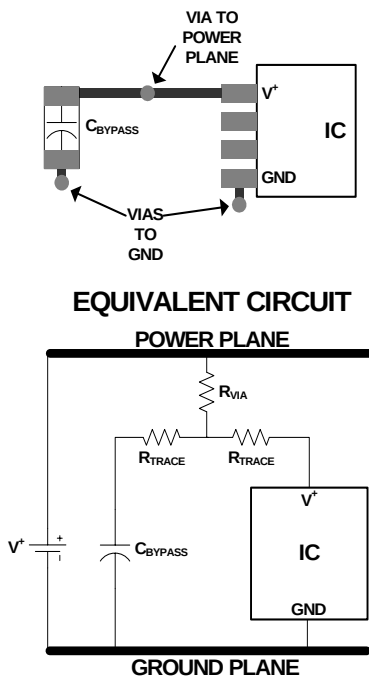
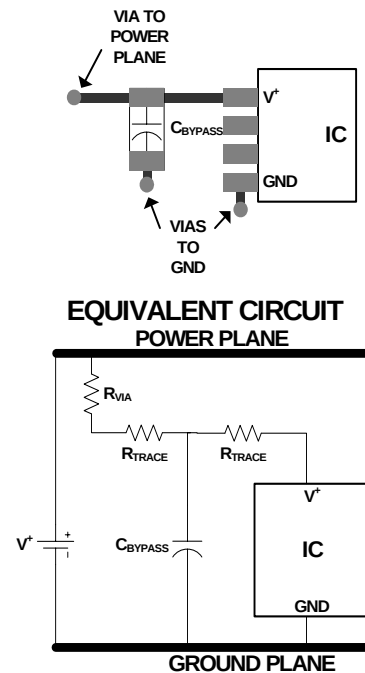

FIGURE 12. SUB-OPTIMAL BYPASS CAPACITOR LAYOUT
FIGURE 13. OPTIMAL ("T") BYPASS CAPACITOR LAYOUT
- Ideally each supply should be bypassed to ground with a $0.1\mu F$ capacitor. Minimize trace length and vias to minimize inductance and maximize noise rejection. Figure 12 demonstrates a common but non-ideal PCB layout and its equivalent circuit. The additional trace resistance between the bypass capacitor and the power supply/IC reduces its effectiveness. Figure 13 demonstrates a better layout. In this case there is still series trace resistance (it is impossible to completely eliminate it), but now it is being put to good use, as part of a "T" filter, attenuating supply noise before it gets to the IC, and reducing the amount of IC-generated noise that gets injected into the supply. Follow the good supply bypassing rules shown in Figure 13 to the extent possible.